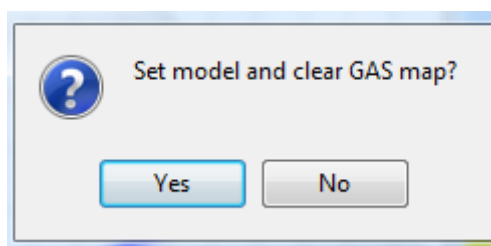

Fig. 3.46 A window confirming setting the model and deletion of the gas map.
8. After collecting petrol and gas maps click „Set model” button. Program will ask for confirmation of setting model and deleting gas map. (Fig. 3.46).